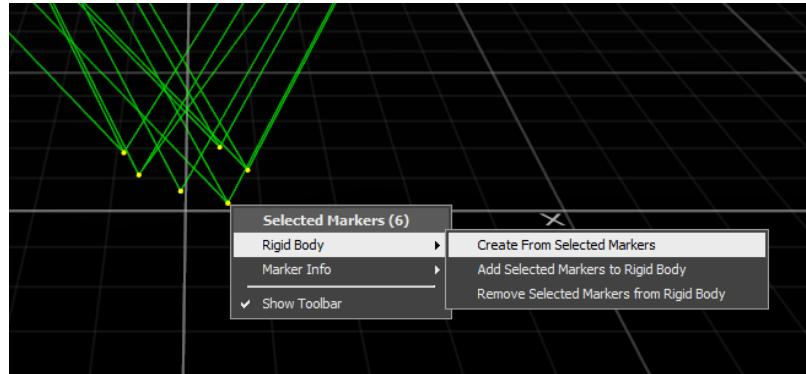

Figure 4. Creating rigid body from selected markers
- Drag and select all the markers in the **Perspective View** window, right-click, and select **Rigid Body > Create From Selected Markers**. (Figure 4)
12. For multi-vehicle scenarios, all the vehicles must be defined in a single trackable file (*.tra). After step 4, place the second vehicle in the workspace and define a new rigid body (Refer to step 3) (Figure 4).